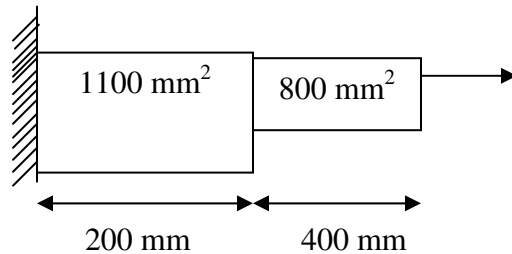

Figure: 4
8. Consider the axial vibrations of a steel bar shown in the Figure: 4.